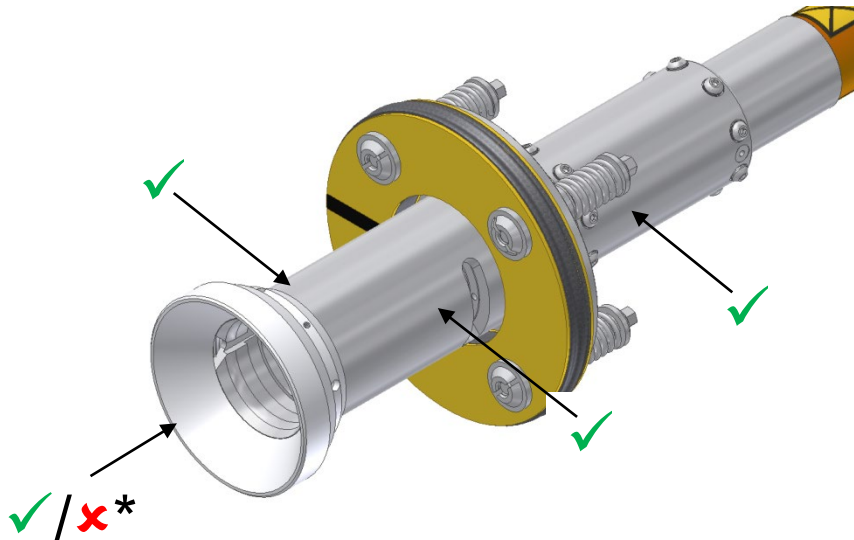

Figure 10 – Connector power washing precautions.
- Submerged water jet cleaning of connectors is acceptable, providing the critical areas identified in Figure 10 are avoided. Particularly, the jet should not be directed at the Plug shuttle pins as this could result in a risk of water being forced through the primary seals and/or front seal. Remaining areas indicated below are suitable for submerged water jet cleaning.